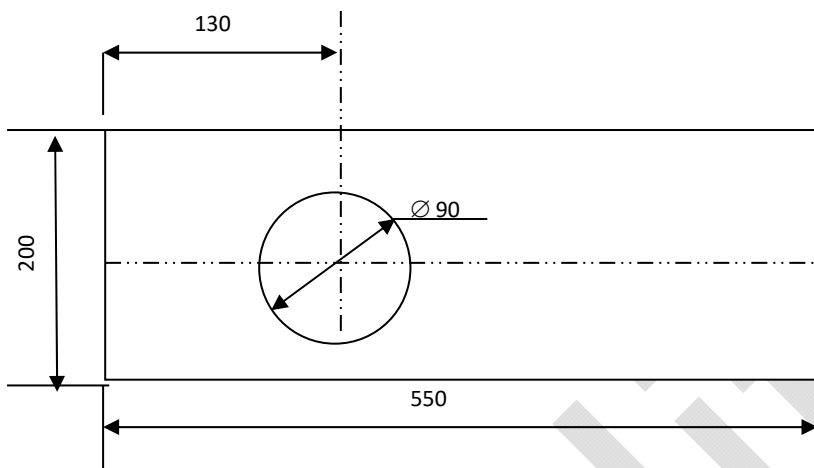

Fig. 1
Place the tester horizontally and steadily on the working table with the horizontality non superior a 1mm/m. while open a hole in the working table (Fig.1) so as to allow the operating lever (6) to move normally. The suggested height of the table is about 500mm.